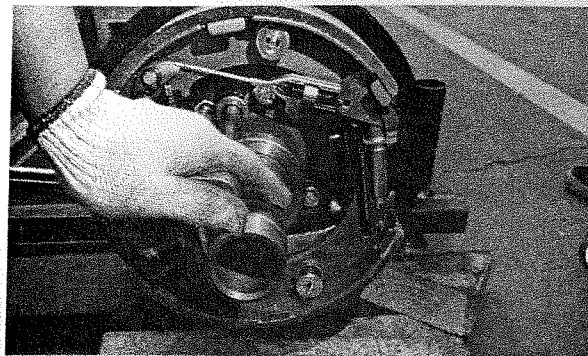

Fig 7-11
(4) Detach the primary brake shoe and the secondary brake shoe, and at the same time remove the spring for adjuster. (Fig 7-11)